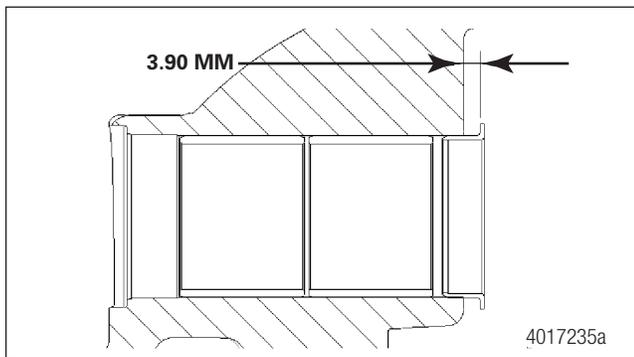

Fig. 8.13 Slide Pin Bushing Depth Measurement
STEP 3 - Use the applicable parts of Meritor tool MST 1000 to draw the retainer into the slide pin bore until the flat face of the retainer is 0.15-inch (3.9 mm) from the end of the slide pin bore. Figure 8.13.